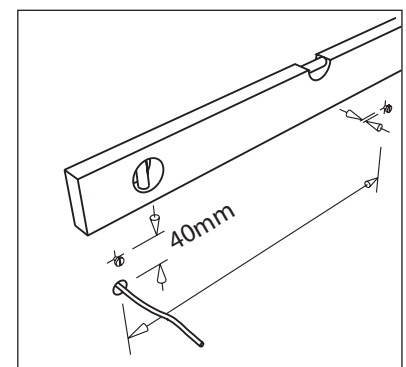

Fig 3.0
- Fix the first screw 40mm above the centre of the cable exit hole. see Fig 3.0 (over page)